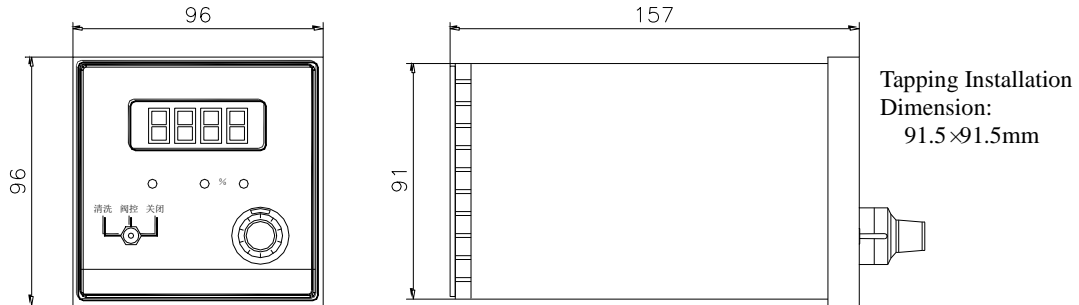

Figure 5. Dimension of 1F, 1FP, 1FM Readout Boxes Chassis
5.1 Dimension (figure5)
The ~220V power supply wire and external signal control terminal of D08-1F&1FP Flow Readout Boxes are showing in figure 5.